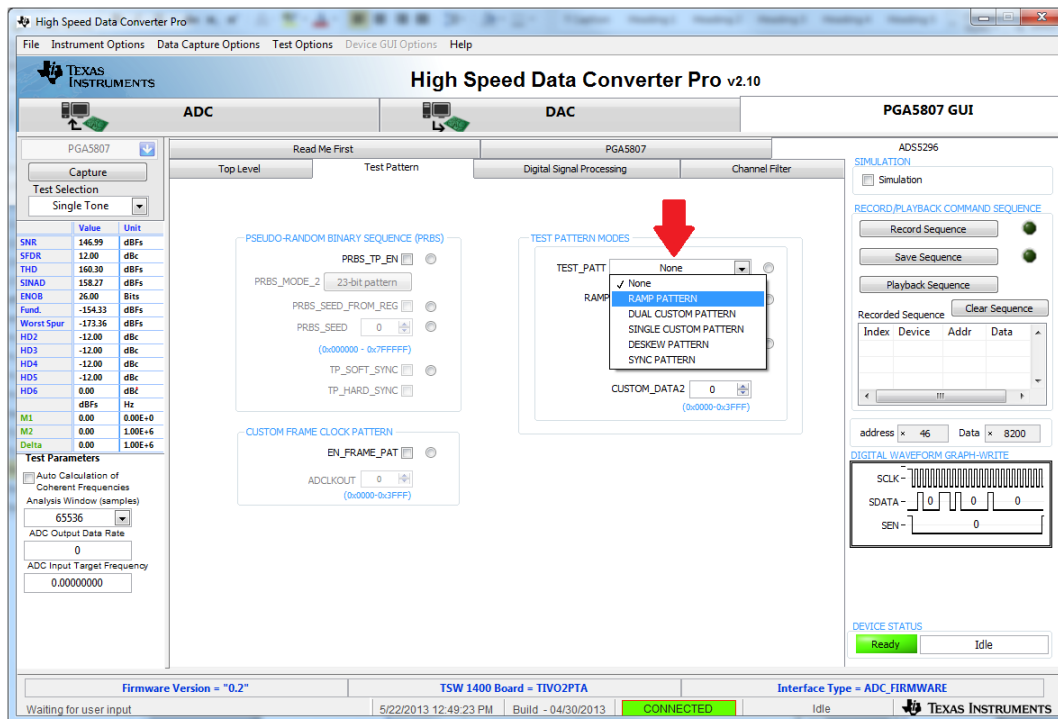

Figure 32. ADS5296A Setup for RAMP Test
1. Within the ADS5296 tab, press on the sub-tab labeled *Test Pattern* and select **RAMP PATTERN** within the **TEST\_PATT** menu as shown in Figure 32.